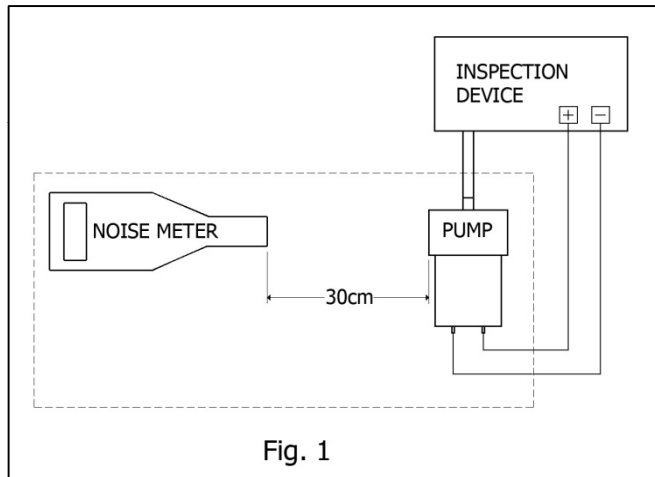

Fig. 1
3.9 Noise: Putting a 5 cm sponge under the pump, and placing it about 30 cm away from the noise meter. The evaluated noise level shall be less than 72 dB while pressurizing with DC 6.0 V from 0 to 150 mmHg. (See Figure 1)